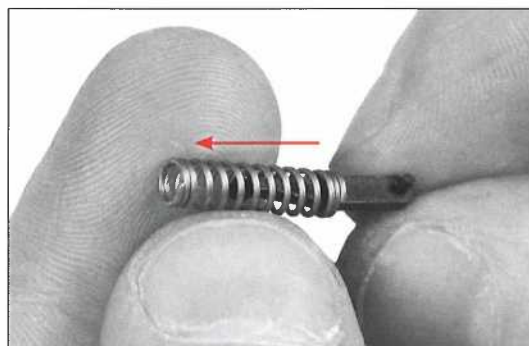

Fig. 245
- Slide the coil spring off the rod. (Fig. 245)